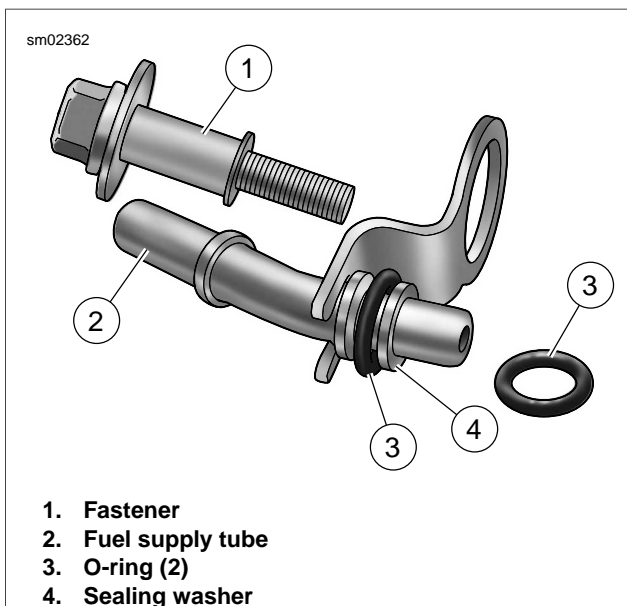
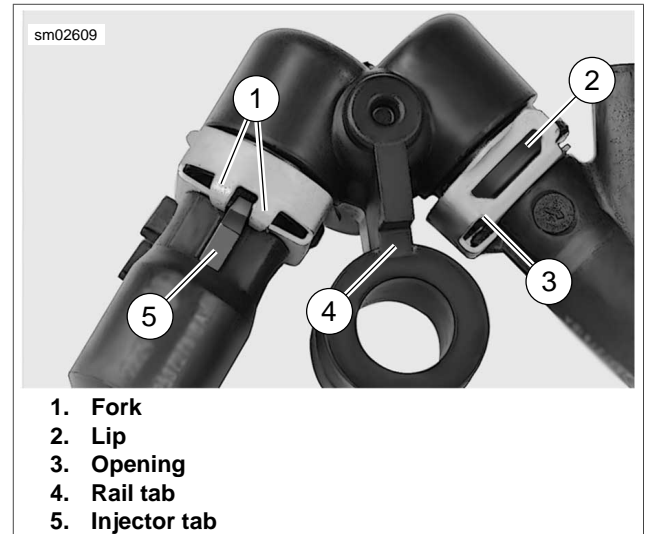

Figure 4-30. Fuel Supply Tube
Figure 4-31. Fuel Rail
2. See Figure 4-30. Remove fastener (1) retaining fuel supply tube (2).
3. Pull fuel supply tube from fuel rail. Remove sealing washer (4) and O-ring (3) from fuel supply tube. Remove second o-ring from fuel rail bore. Discard sealing washer and O-rings.
4. See Figure 4-31. Pull fuel injectors with attached fuel rail from induction module. To overcome the resistance of the bottom O-ring on both fuel injectors, gently rock assembly back and forth while pulling.
2. See Figure 4-31. Push electrical connector side of fuel injectors into fuel rail.
3. With the concave side toward the fuel rail, install spring clip into slot on fuel injector. In the installed position, openings (3) in sides of clip engage lip (2) on fuel rail, while fork (1) at back of clip captures rail tab (4) on fuel injector.
5. See Figure 4-30. Slide **new** o-ring (3) down shorter neck of the fuel supply tube until it contacts the collar. Slide **new** sealing washer (4) down tube until it contacts O-ring. Install second o-ring (3) in fuel rail bore.
6. Push fuel supply tube (2) into fuel rail bore until clamp is seated on round step of fuel rail. Install fastener (1) and tighten to 90-110 **in-lbs** (10.2-12.4 Nm).